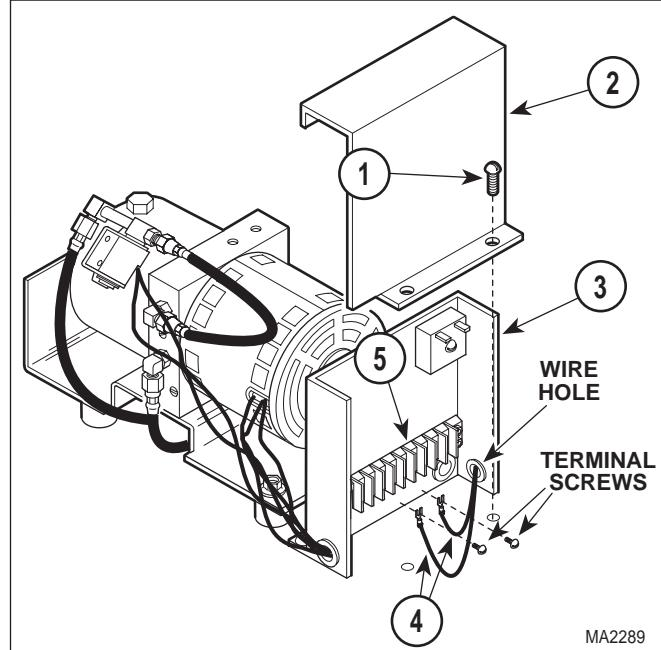
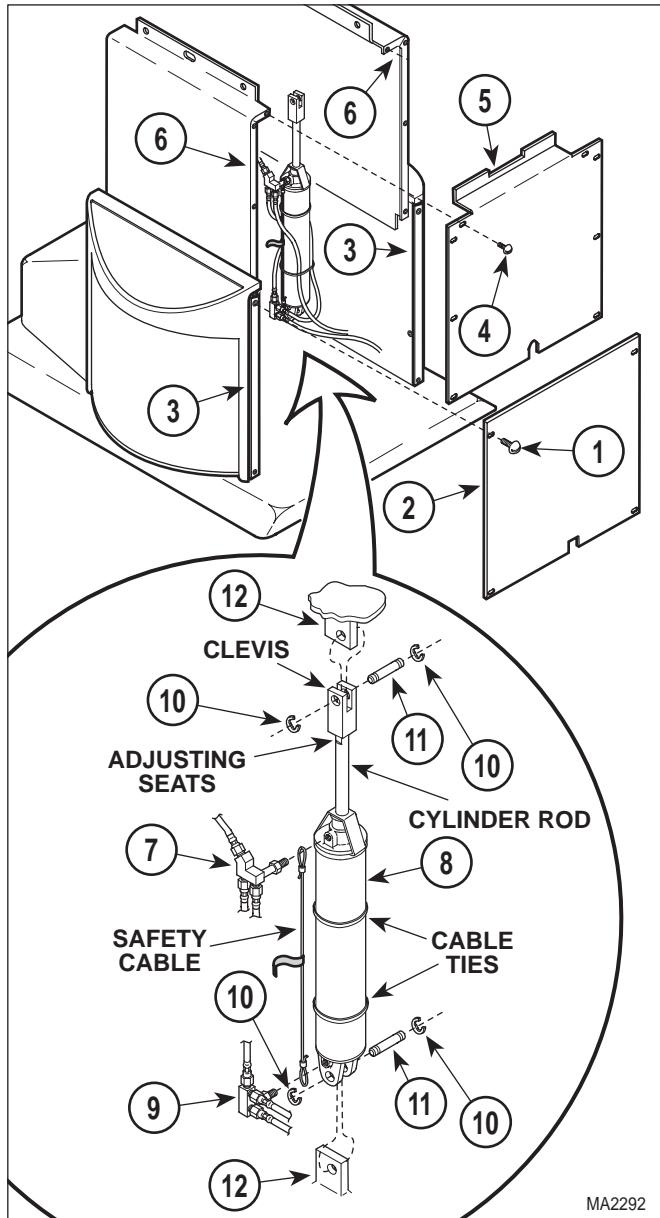

Figure 4-15. Tilt Cylinder Wire Disconnection / Connection
Figure 4-16. Tilt Cylinder Removal / Installation
- (1) If possible, lower TILT DOWN function all the way down.
- (2) Raise FOOT UP function all the way up.
- (3) Unplug table power cord from outlet.
- (4) Remove motor cover assembly (Refer to para 4.2).
- (5) Remove two screws (1, Figure 4-15) and control cover (2) from control panel (3).
- (6) Loosen two terminal screws; then tag and disconnect two tilt cylinder wires (4) from terminal block (5).
- (7) Pull tilt cylinder wires (4) out thru wire hole.
- (8) Remove four screws (1, Figure 4-16) and front outer shroud (2) from left and right hand outer shrouds (3).
- (1) Install tilt cylinder (8, Figure 4-16) on brackets (12) and secure with two clevis pins (11) and four E-rings (10).
- (2) Connect power manifold (9) to base of tilt cylinder (8).
- (3) Connect return manifold (7) to rod end of tilt cylinder (8).
- (4) Secure wire harnesses and hose assemblies to tilt cylinder (8) with a cable tie.
- (5) Route tilt cylinder wires (4, Figure 4-15) thru table.
- (6) Feed tilt cylinder wires (4) thru wire hole in control panel (3).
- (7) Connect two tilt cylinder wires (4) to terminal block (5) and secure by tightening two terminal screws.
- (8) Install control cover (2) on control panel (3) and secure with two screws (1).
- (9) Install any cable ties which were removed.
- (10) Plug table power cord into outlet.
- (11) Lower TILT DOWN function all the way down.
- (12) If seat section is not level with floor when the TILT DOWN function is completely lowered, perform steps 13 thru 15. If seat section is level when the TILT DOWN function is completely lowered, go to step 16.